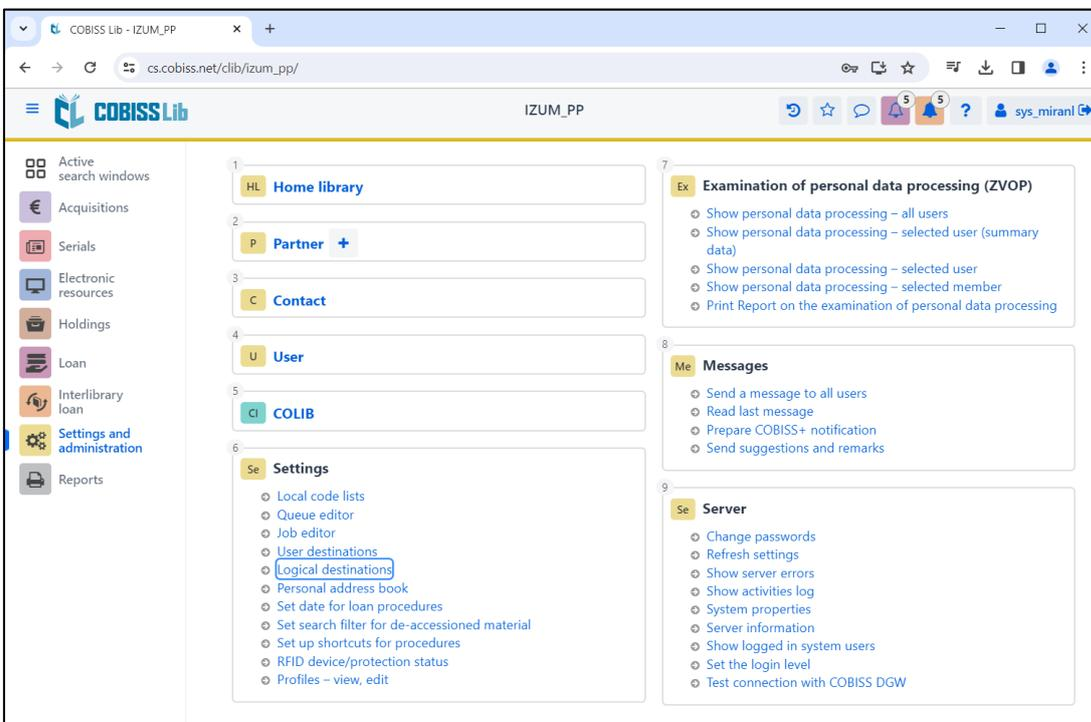

Figure 10: COBISS Lib user interface and logical destinations
- Figure 10: COBISS Lib user interface and logical destinations6
In COBISS Lib select **Settings and administration / Settings / Logical destinations** (Figure 10).